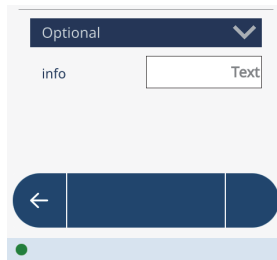

Figure 2-27 Optional bar
2. Tap the **Optional** bar to display the **info** field (see Figure 2-27 on page 46).